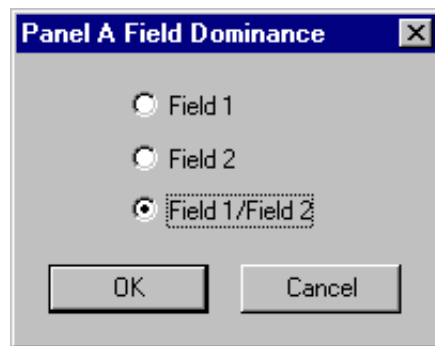

Figure 97. Field Dominance dialog box
1. Choose **Options | Field Dominance**. The Field Dominance dialog box appears (Figure 97).